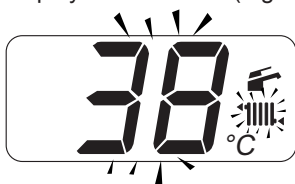

Fig. 2.9
- The heating flow "set" temperature and the symbol flash. The background of the display is illuminated (Fig. 2.9).